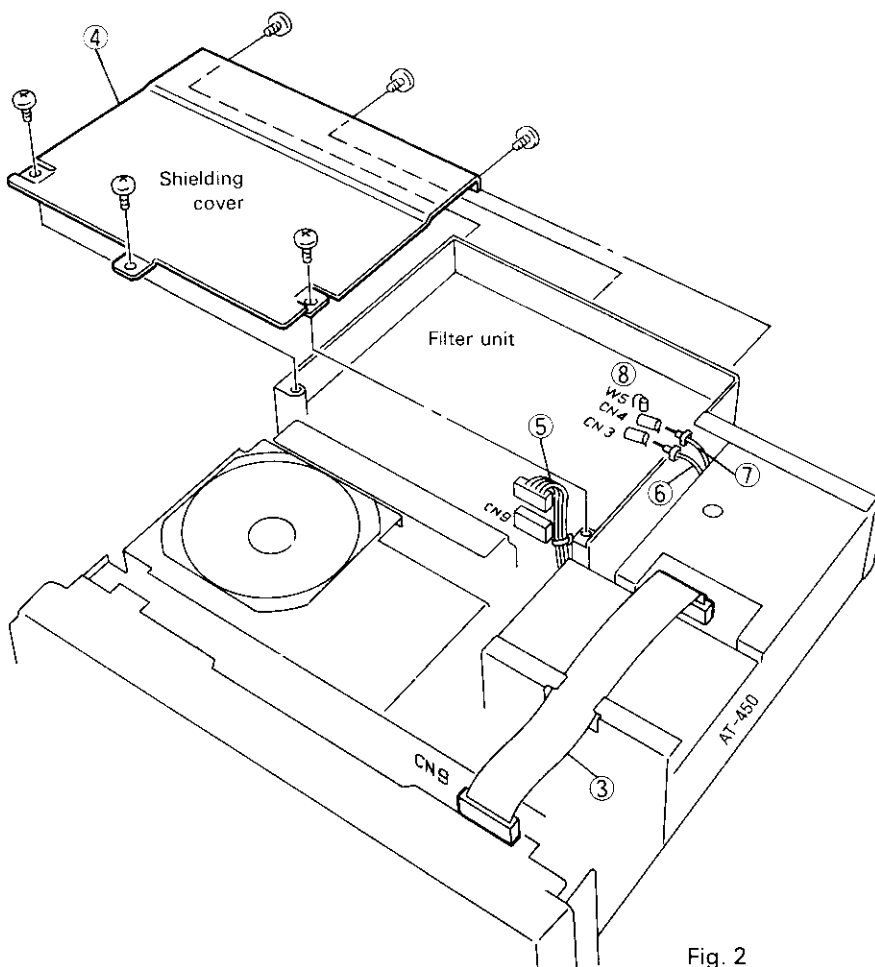

Fig. 2
4. Remove the shield cover of the filter unit. (Figure 2)
5. Insert the 7-pin connector into CN9 of the filter unit. (Figure 2)
6. Insert the coaxial connector (with a white tube) into CN3 of the filter unit. (Figure 2)
7. Insert the other coaxial connector into CN4 of the filter unit. (Figure 2)
8. Cut W5 of the filter unit. (Figure 2)